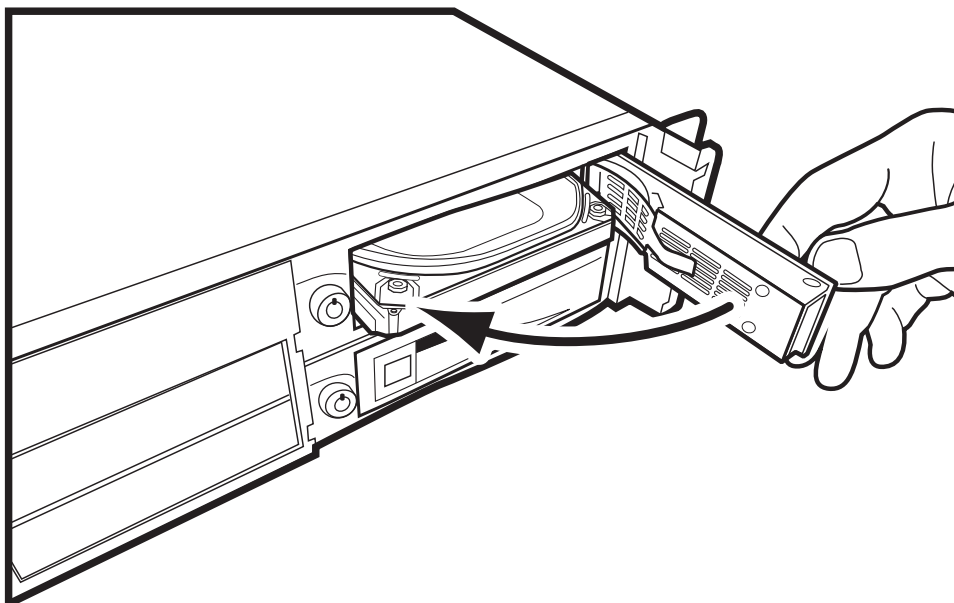

Figure 2.17 Closing the Hard Disk Door
4. Close the top hard disk tray. See figure 2.17 on page 20.